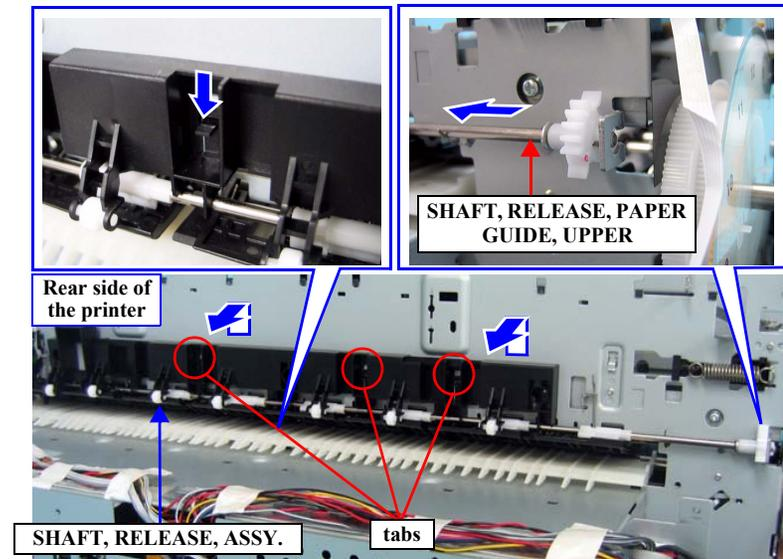

Figure 4-160. Removing the SHAFT, RELEASE, ASSY.
5. Lift up the SHAFT, RELEASE, ASSY. while pushing down the three tabs on the SHAFT, RELEASE ASSY. See Figure 4-160.
6. Slide the SHAFT, RELEASE, ASSY. leftward to release the SHAFT, RELEASE, PAPER GUIDE, UPPER from the main frame, and then remove the SHAFT, RELEASE, ASSY. See Figure 4-160.